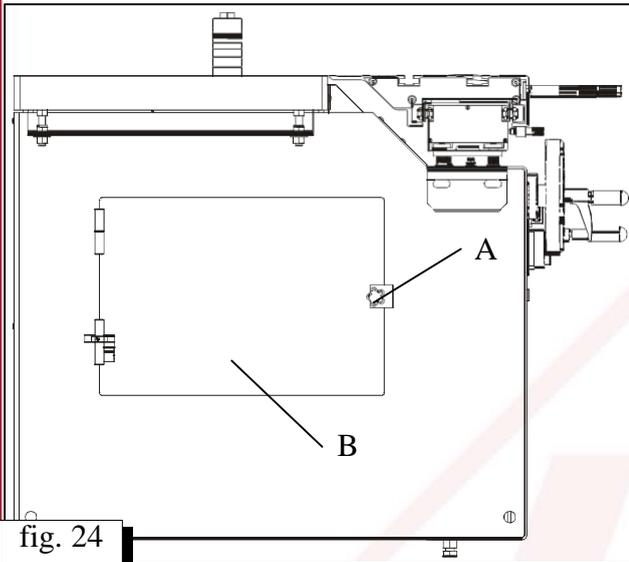

fig. 24
- Release handle A and open door B in order to provide for convenient access to the rotations adjustment device of the spindle (fig. 24)